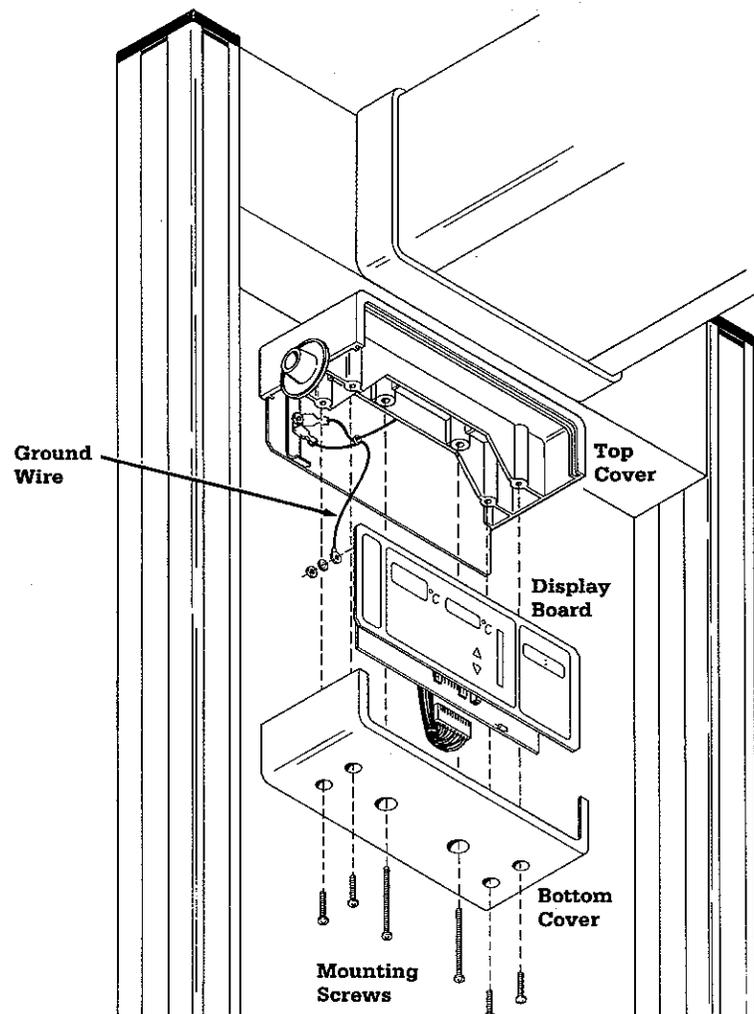

Figure 5-8
C. Display Module Disassembly (Figures 5-8 and 5-9)
D. Display Module Assembly (Figures 5-8 and 5-9)